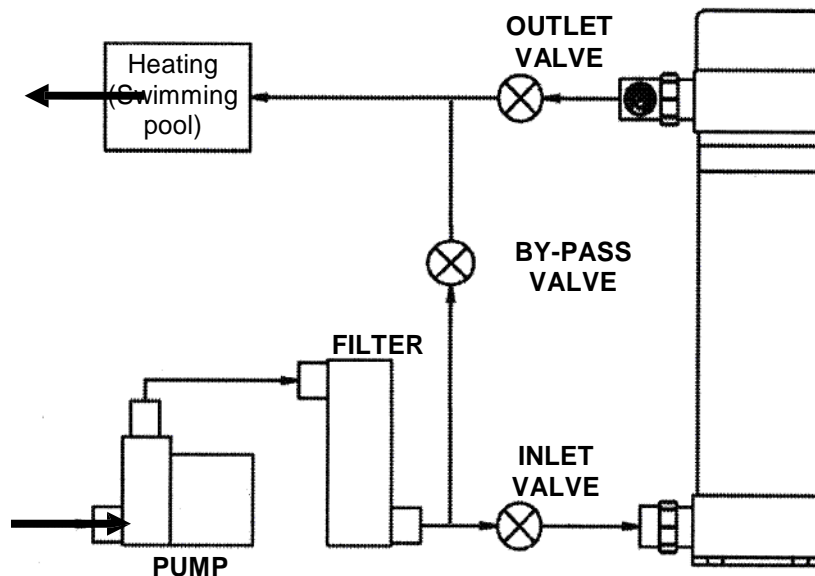

FIG. 1
**Plumbing The UV Unit** - Your DELTA UV unit will need to be plumbed into your pond or swimming pool circulation system. The diagram (Fig. 1) shows how the unit is to be plumbed. Note that the water is to be piped from the pressure side of the pump and after the filter, in and out of the DELTA UV unit. The inlet for the water is at the bottom of the DELTA UV unit, and the outlet is at the top of the DELTA UV unit. If your pump exceeds the maximum flow rate of the DELTA UV unit, installation of a plumbing by-pass will be necessary to bypass some of the pump's flow around the DELTA UV unit so the maximum flow rate of the DELTA UV unit will not be exceeded. **By-pass system is recommended in all installations.**